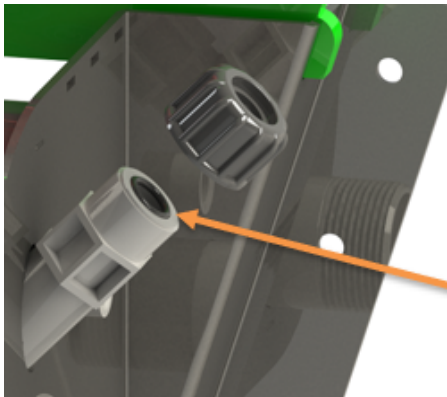

Figure 14
1. Unscrew the black nut from the pH holder mounted on the mixing tube. **Please note: leave the O-ring on the holder** (see figure 14).